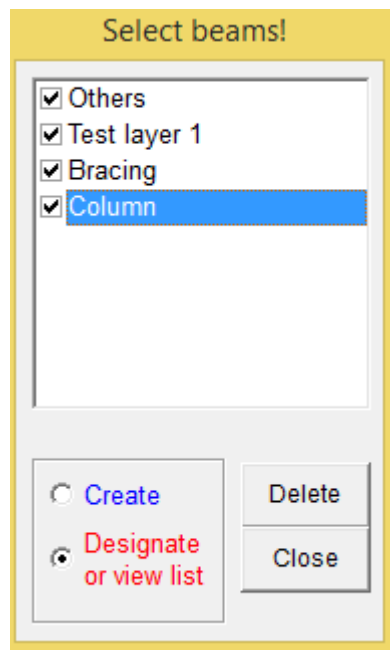

Figure 48
**Step 3:** Type the layer name. (In this example, let us say 'Test layer 1'), then click button 'OK'. Figure 46 will then change to Figure 48. (Note that there are now two layers named Others and Test layer 1. Test layer 1 is being highlighted which means that this is the current or default layer.)